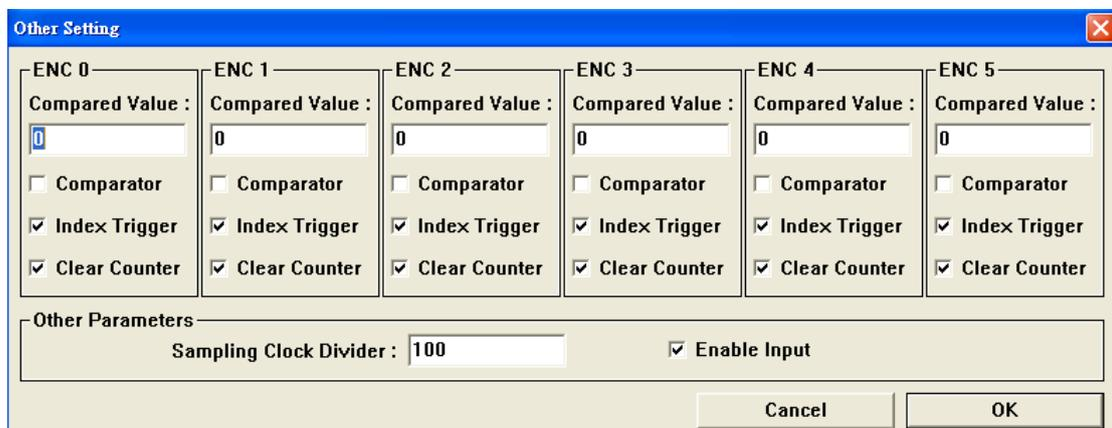

Figure 4-4.4
(4) Set encoder counter compared value (as shown in Figure 4-4.4)
(5) Set encoder counter interruption (as shown in Figure 4-4.4)
(6) Clear encoder counter (as shown in Figure 4-4.4)
(7) Set encoder sampling clock divider (as shown in Figure 4-4.4)
(8) Set encoder start/stop (as shown in Figure 4.4-4)